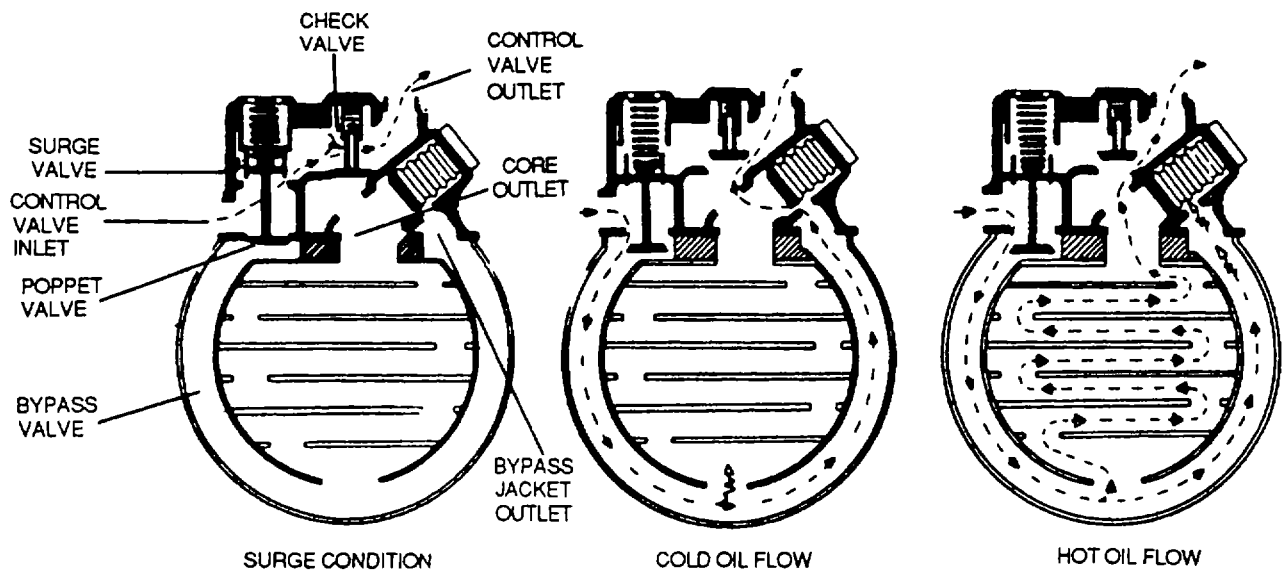

Figure 3-14. Surge Valve Example
(4) *Surge valves.* Surge valves are used to prevent high oil pressure from bursting the oil cooler or blowing hose connections. Figure 3-14 shows a surge valve incorporated in the oil cooler flow control valve. The high-pressure operation condition is shown in figure 3-14, where the high oil pressure at the control valve inlet has forced the surge valve upward. Note how this movement has opened the surge valve and, at the same time, seated the poppet valve. The closed poppet valve prevents oil from entering the cooler proper; therefore, the scavenge oil passes directly to the tank outlet without passing through either the cooler bypass jacket or the core. When the pressure drops to a safe value, the spring forces the surge and poppet valves downward, closing the surge valve and opening the poppet valve. Oil then passes from the control valve inlet, through the open poppet valve, and into the bypass jacket. The thermostatic valve, according to oil temperature, then determines oil flow either through the bypass jacket or through the core. The check valve opens to allow the oil to reach the tank return line.